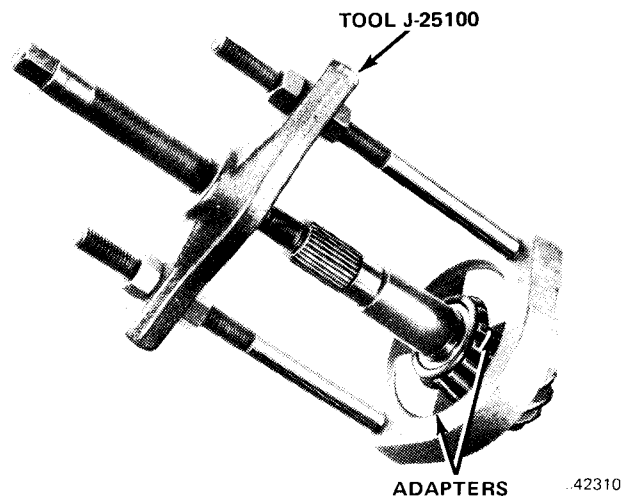

Fig. 10-53 Removing Differential Bearing
Remove differential bearings and pinion inner bearing using Bearing Puller J-25100. This puller eases removal of bearings without damaging cone rollers, as pulling pressure is applied directly to bearing (fig. 10-53).
**NOTE:** When removing front axle differential inner pinion bearing with oil slinger attached, two puller adapter plates must be inserted from top into one side of J-25100 puller base, then repositioned 180 degrees apart (fig. 10-53).